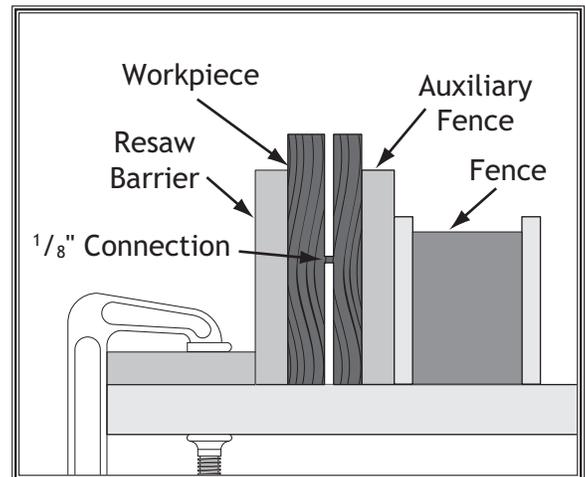

Figure 77. Ideal completed resaw operation.
10. Repeat **Steps 7-9** until blade is close to half the height of board to be resawn. The ideal completed resaw cut will leave an $\frac{1}{8}$ " connection when resawing is complete, as shown in **Figure 77**. Leaving an $\frac{1}{8}$ " connection will reduce risk of kickback.